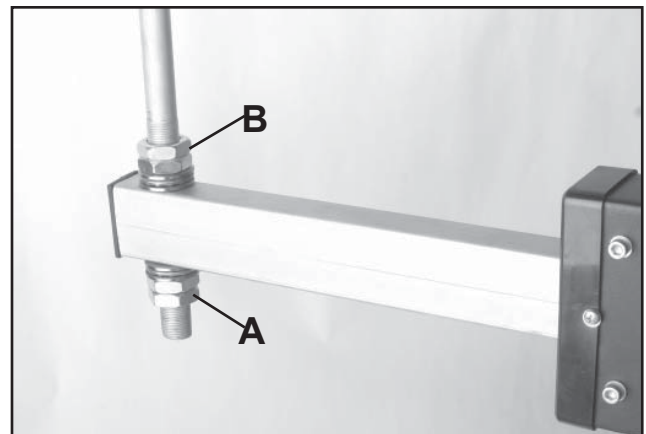

Figure 19
1. Loosen the lower adjusting nuts on the carriage table support arm (A, Fig. 19).
2. Raise or lower the upper adjusting nuts until the sliding table carriage is level (B, Fig. 19).